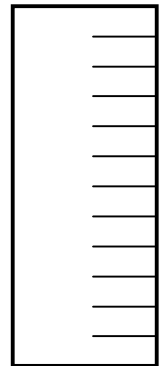

Figure 1
- d. Every 1”, cut a 3” flanges across the TegraTite/Plus strip (Figure 1).